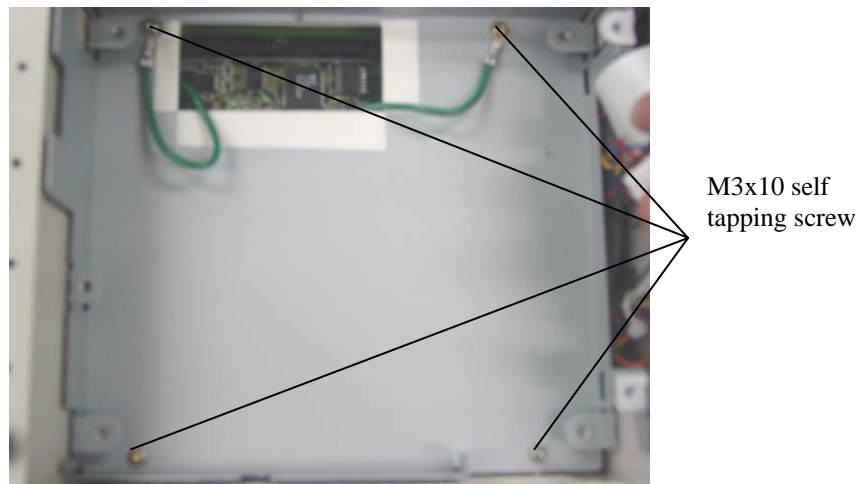

Figure 20 – Assembly of Main PC Board Plate
1. Assemble Check Scanner Main PC Board Plate (part 15) on the Bottom Cover using original M3x10 self tapping screw. (Figure 20)